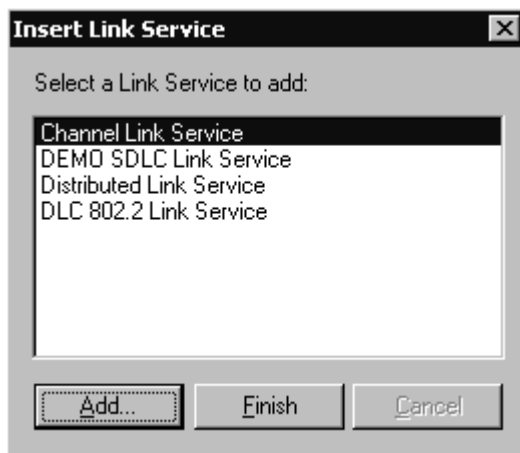

Figure 8-10. Insert Link Service after Install
5. Click **OK** to install the Link Service. The Insert Link Service dialog box will reappear with the **Finish** button now active (Figure 8-10). Click **Finish**.